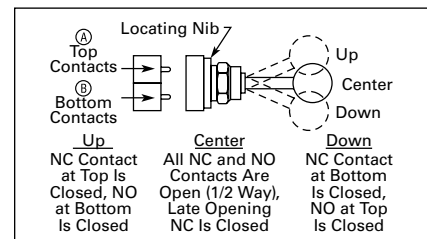

Figure 2-95. A and B Mounting Location
- ⑤ Bolded circuit corresponds to "X-O" circuit selection. X = closed circuit, O = open circuit.
- ⑥ See **Figure 2-95** for "A" and "B" mounting location.
- ⑦ NO = Normally Open, NC = Normally Closed, LONC = Late Opening Normally Closed.
- ⑧ Four circuits in single block depth — rated 300V max.